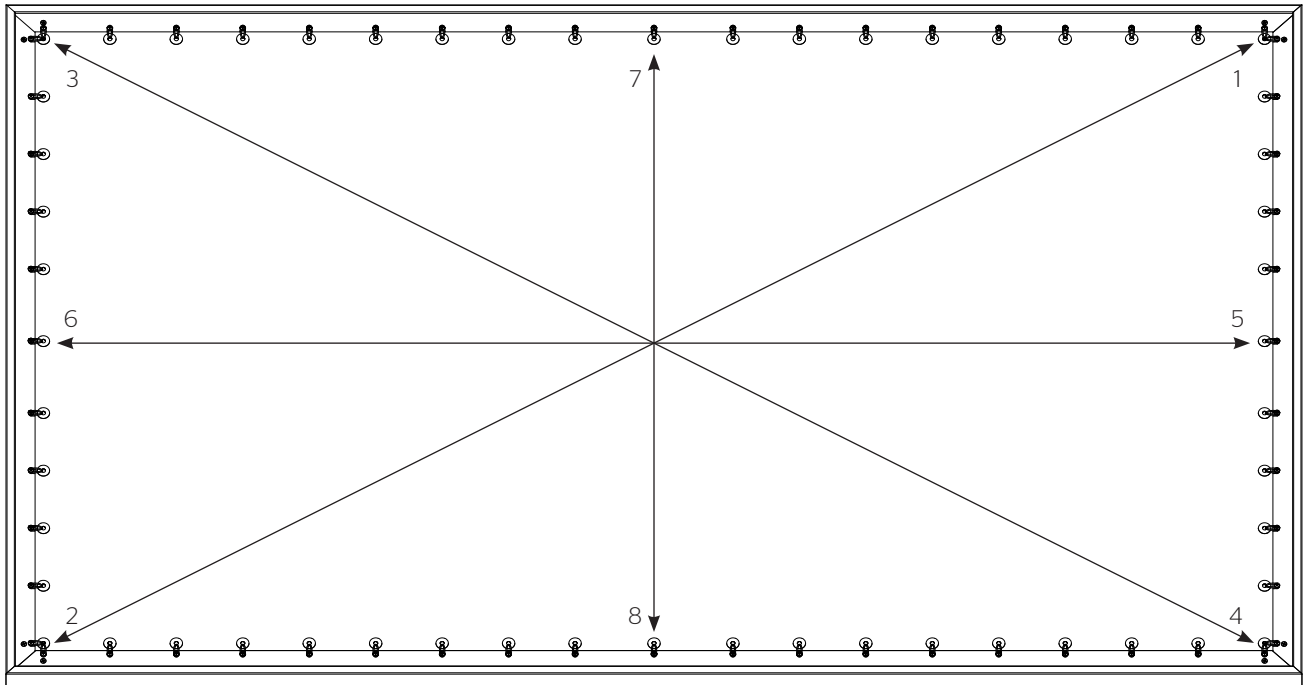

Figure 4
5. Repeat Step 4 for the remaining three corners of the screen. Use the sequence shown in Figure 4.
6. Insert one elastic ring into the center hole on the right, left, top and bottom of the screen surface and secure it over the stud. Use the sequence shown in Figure 4.